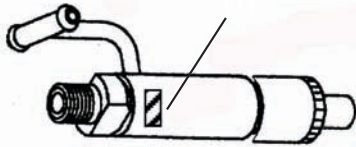

Figure 7-3
Note: All fuel injectors have a three character identification mark (**Figure 7-3, (1)**). The first character starts with “V” or “W”.